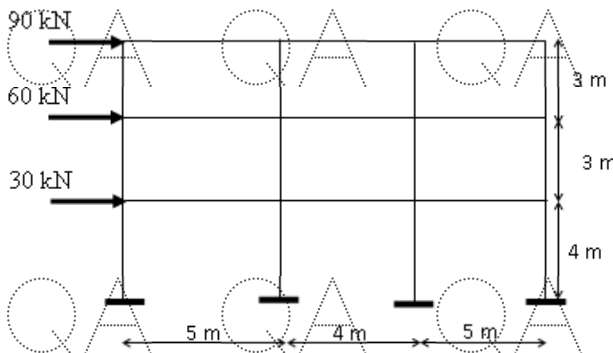

Figure.4
6. Using cantilever method, analyse the frame shown in figure 4. Draw BMD. [10]